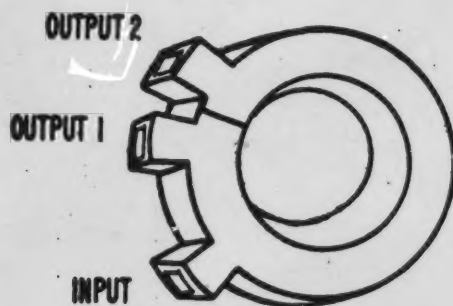

Figure 17
- (18.) To make a waveguide act as a delay line, the waveguide is formed into a loop or circle as shown in Figure 17.